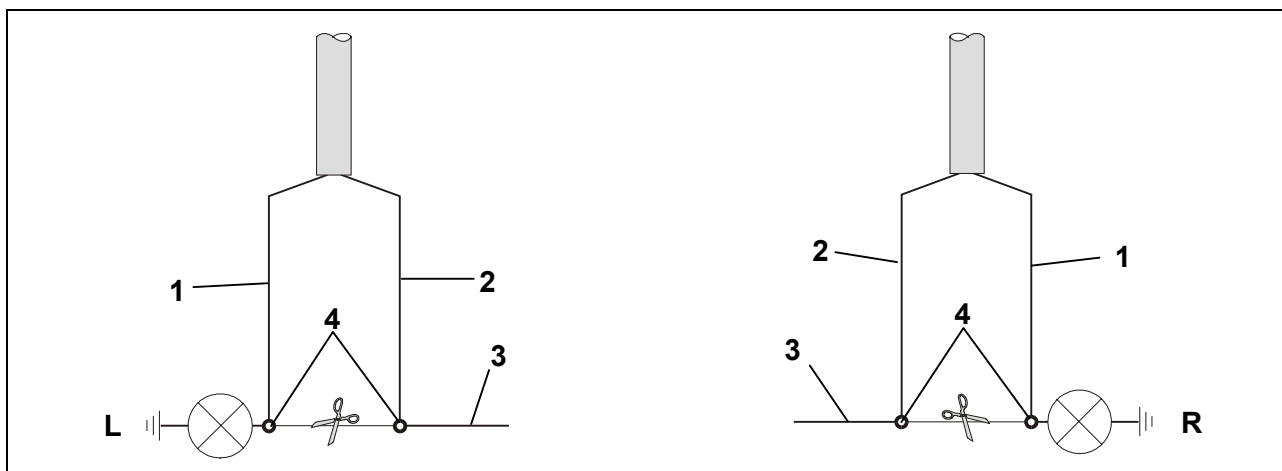

Fig. 2: Rear fog lamp
13. Measure and identify the cables the vehicle's cable harness and connect them to the connector (Fig. 2/4) as shown in Fig. 2. Cut through the cable in a suitable place.
14. Install the supplied plug-in connectors (Fig. 2/4) and let them lock into place.